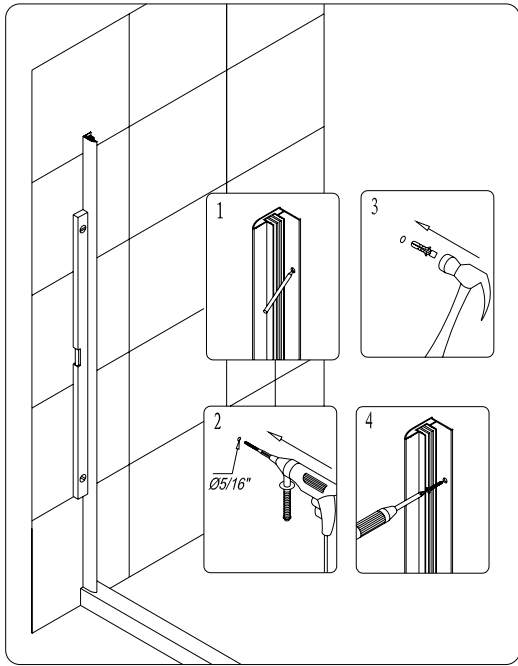

Fig. 1
1. Remove the **Wall profile (01)** (this is the external part of the wall and glass profiles set with no holes along the surface side) and place it against the wall on the threshold in the designated position. Note that this part of the profile piece should be fastened as shown in fig.1. Make sure it's leveled and plumbed. Mark the drill holes on the wall. Drill the holes, insert **Wall Anchors (07)** and attach the external profile wall profile to the wall with the **Screw ST4.2x30 (10)**. See fig. 1 for details.